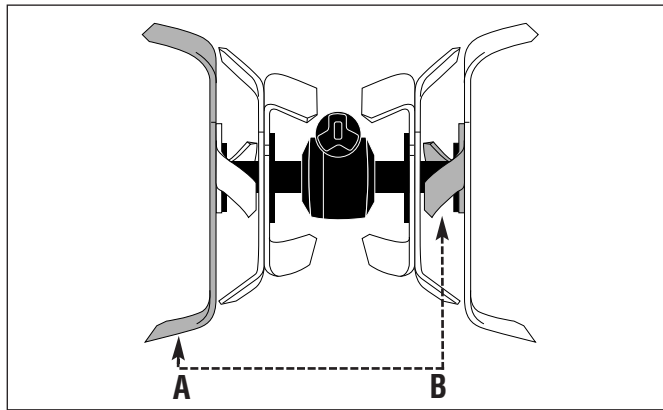

Figure 28: Exchanging position of tines at "A" and "B."
Step 1: Move the two *left-curved* tines (labelled "A" in Figure 28) from the left outer holder to the "B" position on the right outer holder. Move the two *left-curved* tines which were at the "B" position to "A."